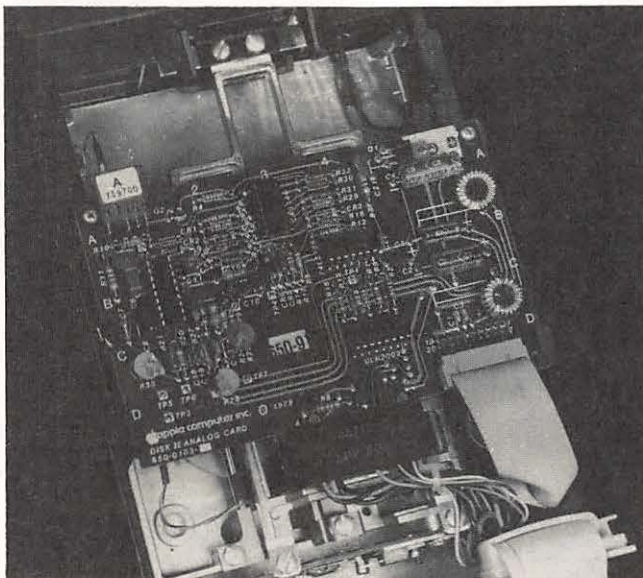

Fig. 8-14. The Disk II analog card.
11. Remove the analog card as shown in Fig. 8-14.